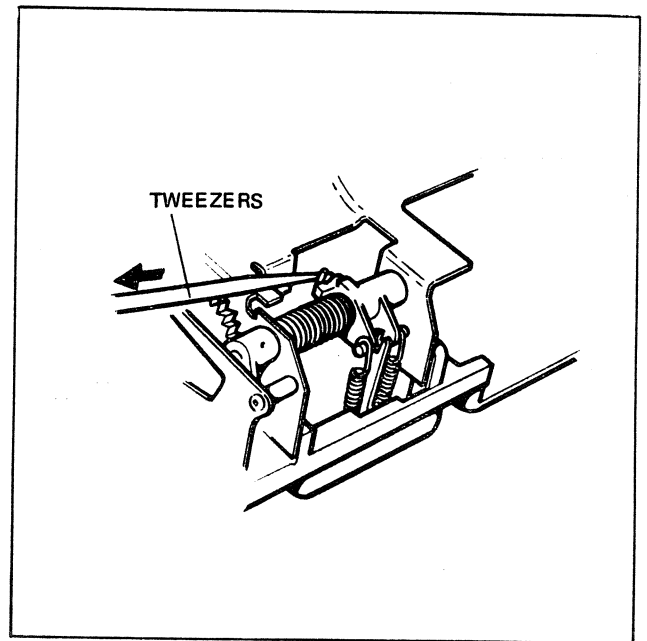

FIGURE 4-37 REMOVING FRESNEL CARRIER DRIVE SPRING
11. Refer to Figure 4-37. Use tweezers and slip the hooked end of the Fresnel carrier drive spring off its retainer on the drag link bell crank.